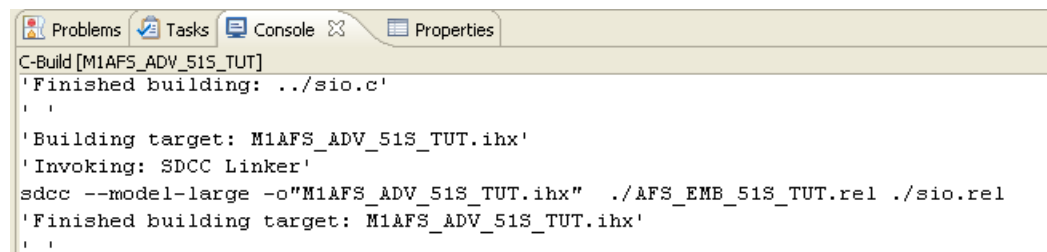

Figure 5-4 · Successful Completion of the Release Build
4. The project will be compiled and linked, with results indicated in the Console window (Figure 5-4).